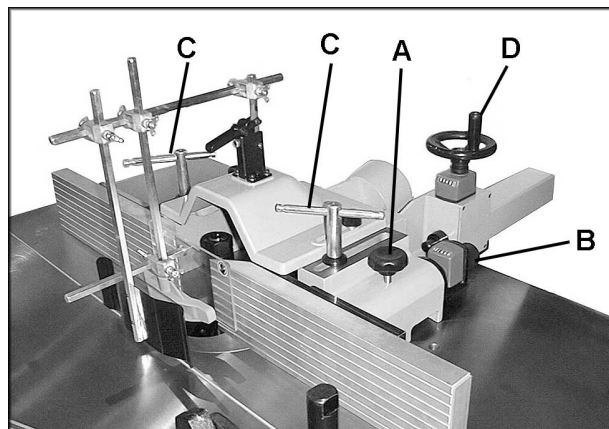

FIGURE 30
2. The right fence half (infeed) can be moved independently, in or out, depending on the type of shaping operation that is being performed. See Figure 30. To move the right fence half in or out, loosen the locking knob (A) and turn the adjusting knob (B). Precise movements are possible by using the dial indicator beneath the knob. When finished, re-tighten locking knob (A).
3. The complete fence assembly can be rapidly positioned on the table by loosening two locking handles (C) and moving the fence assembly to desired position by rotating the handwheel (D). Use the dial indicator for more precise measurement. Re-tighten the handles (C) when finished.